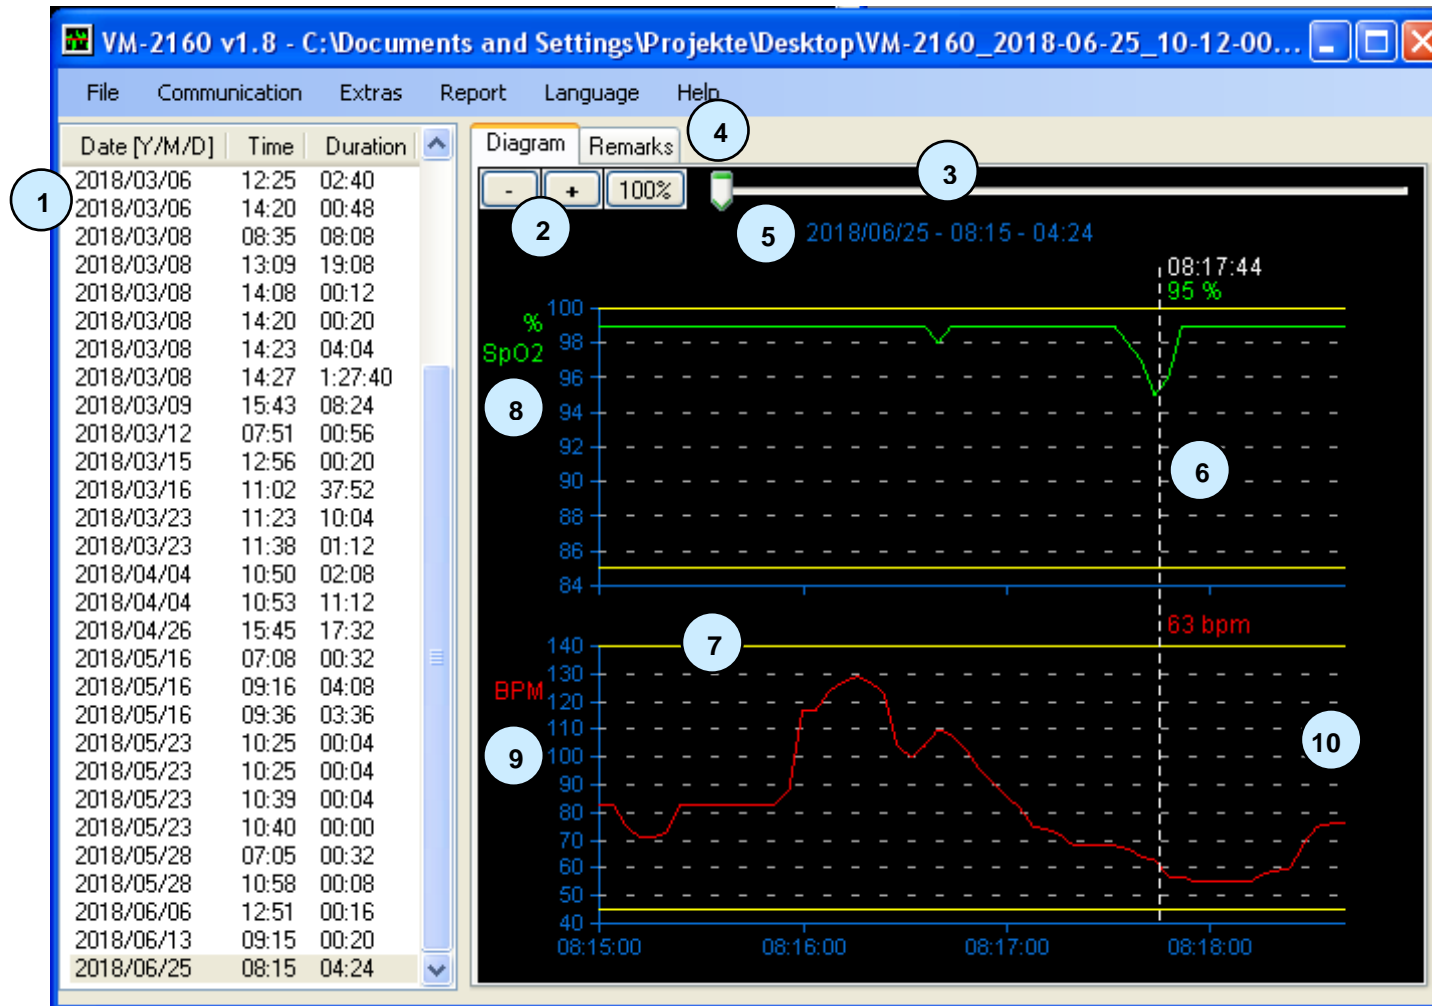

Figure 1: Diagram tab
See the figure 1 for descriptions in the table below:
- Select a dataset from the list of datasets (see figure 1 no. 1)